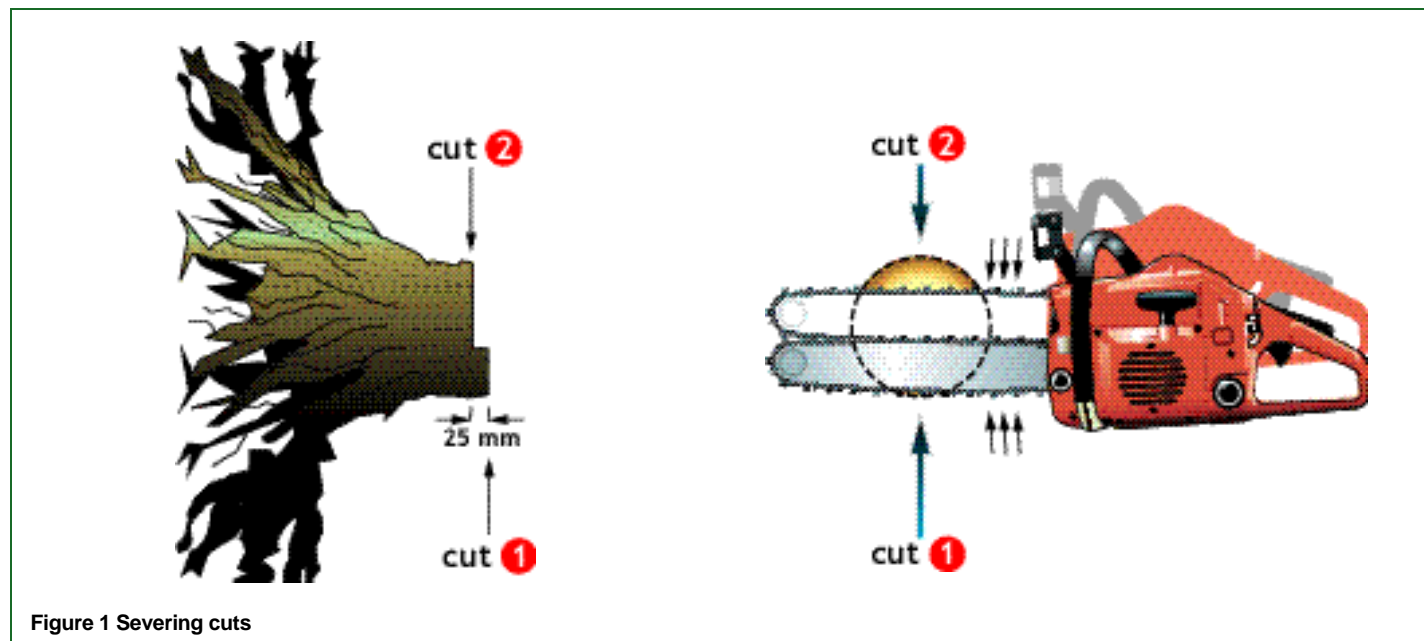

Figure 1 Severing cuts
- ❑ 22 When there is a danger that the stem may spring upwards, make the final severing cut into the tension wood at least 25 mm away from the first (compression) cut and into the part of the stem that is least likely to move (see Figure 1). A series of cuts may be made on the compression side to relieve excessive tension in the stem.